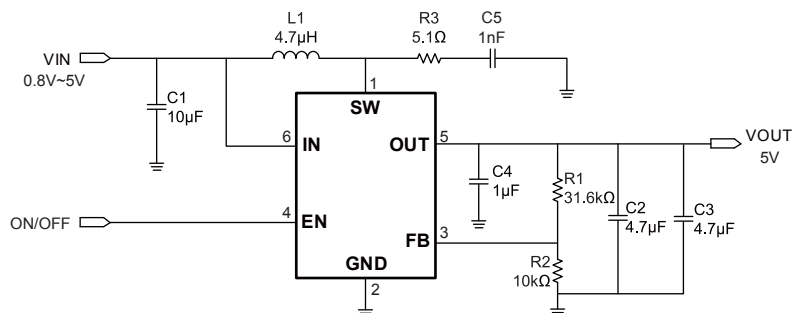

Figure 2— $V_{OUT}=5V$ Typical Application Circuit
When the chip is used in $V_{OUT}=5V$ condition, an RC snubber should be added to protect the MOSFET from over voltage. The recommended parameters are $R3=5.1\Omega$, $C5=1nF$. The circuit can be seen in Figure 2.
- 1) The output capacitor should be placed as close as possible to IC and forms a smallest loop with IC SW and GND pins. as C4 shown in figure2.